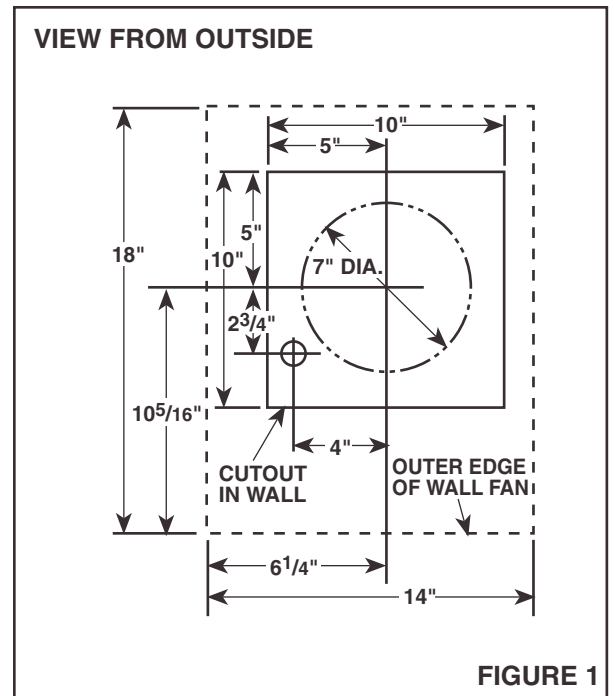

FIGURE 1
1. **Refer to Figure 1.** At the desired location, cut an opening 10" by 10" to accommodate both the 7" duct and the wiring conduit.